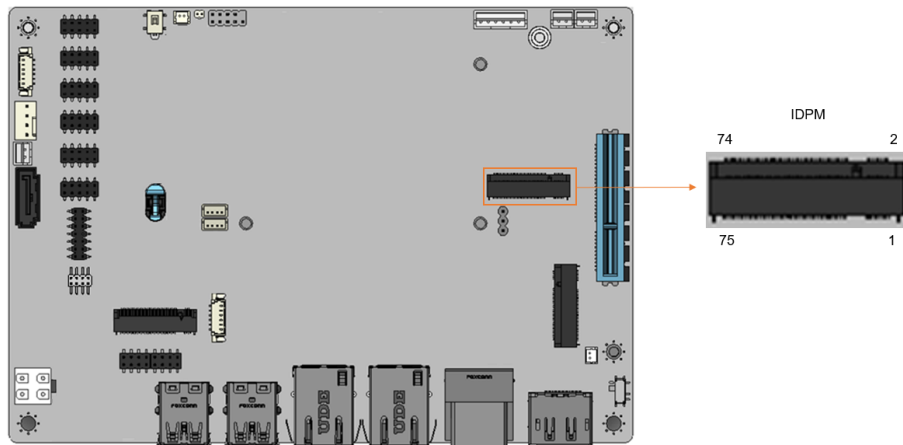

Figure 3-18: IDPM Slot Location
- CN Location:** See **Figure 3-18**